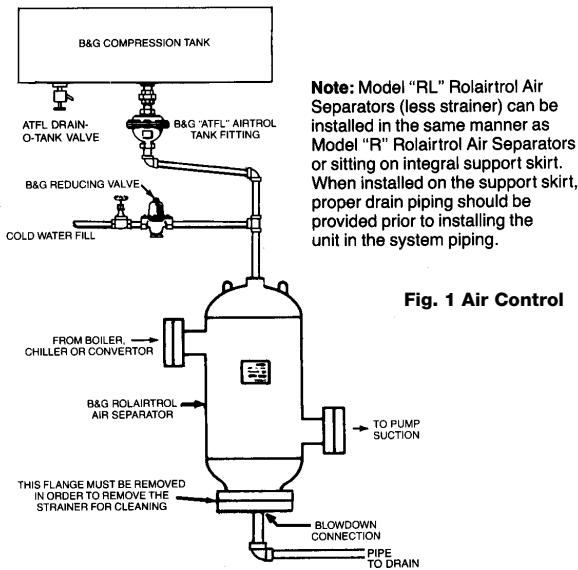

Fig. 1 Air Control
1. Refer to Figures 1 and 2 for the proper installation of the Rolairtrol.